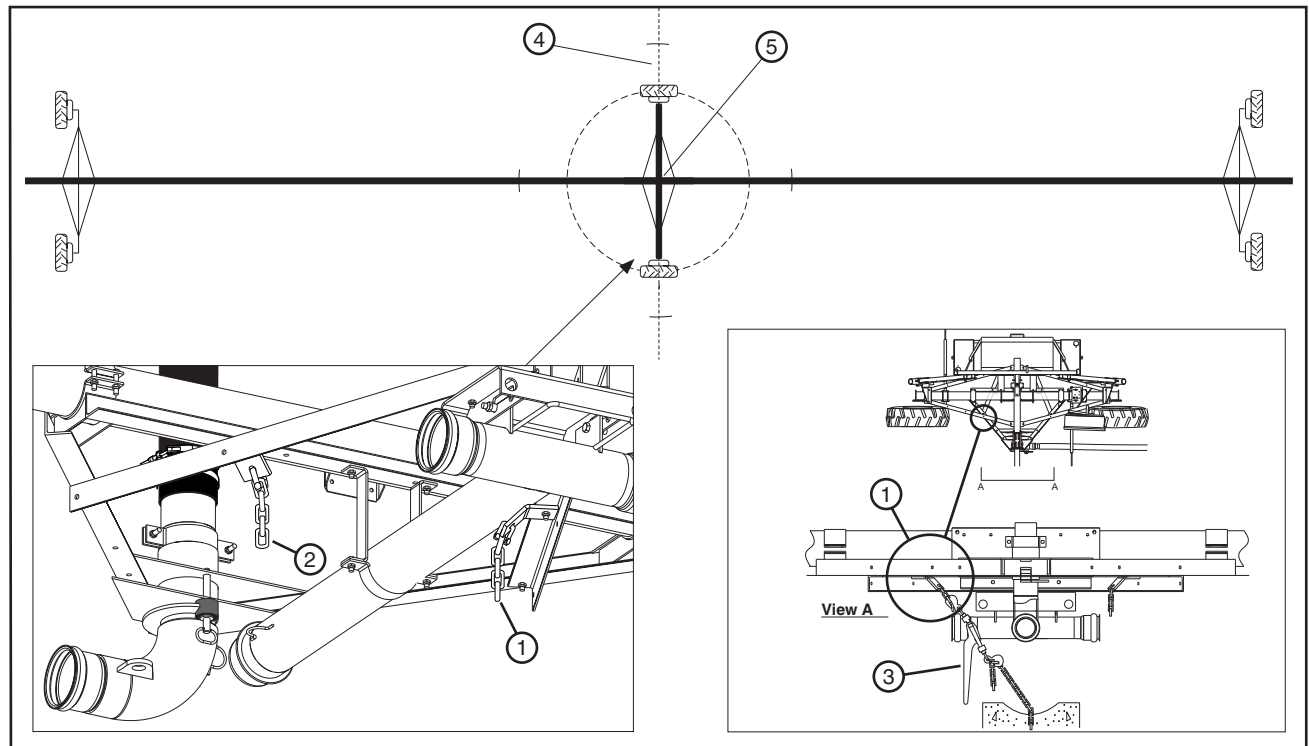

Figure 59-2 Concrete Anchor Method.
6. Tie the machine to the anchor with a load binder attached to one of the short chains on the drive unit depending on the direction the machine will be rotated. See figures 59-2.
7. When the machine is started it will pivot around the center of the base beam. See figures 59-2.